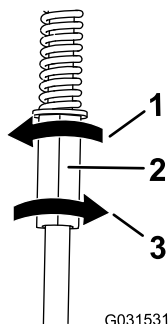

Figure 57
4. Rotate the left control rod in quarter-turn increments until the machine tracks straight (Figure 57).